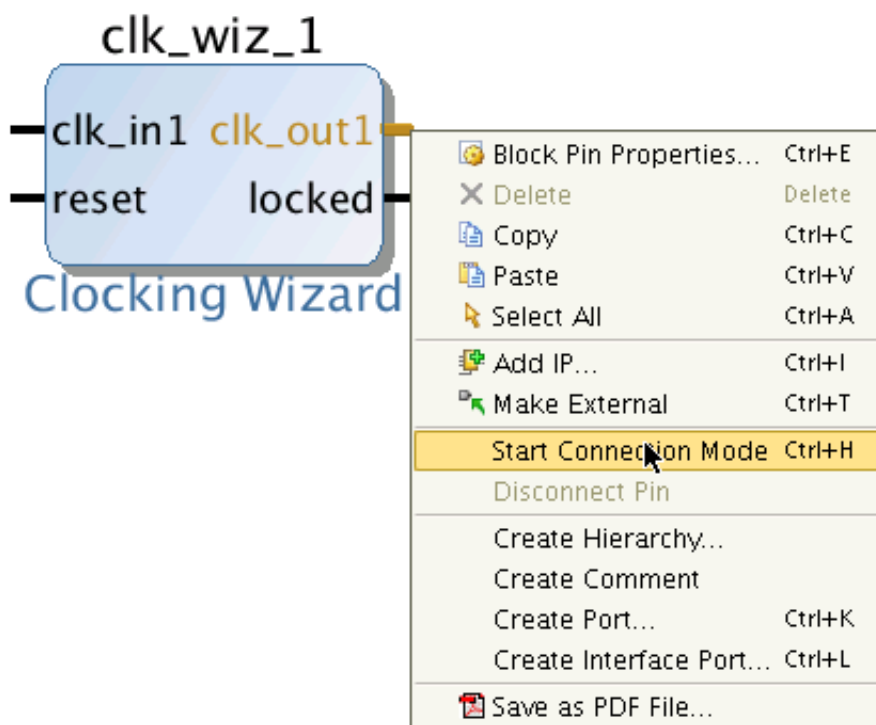

Figure 53: Start Connection Mode from Popup Menu
- To make connections from one source to multiple destinations, right-click the source port, and select **Start Connection Mode**, (Figure 53).